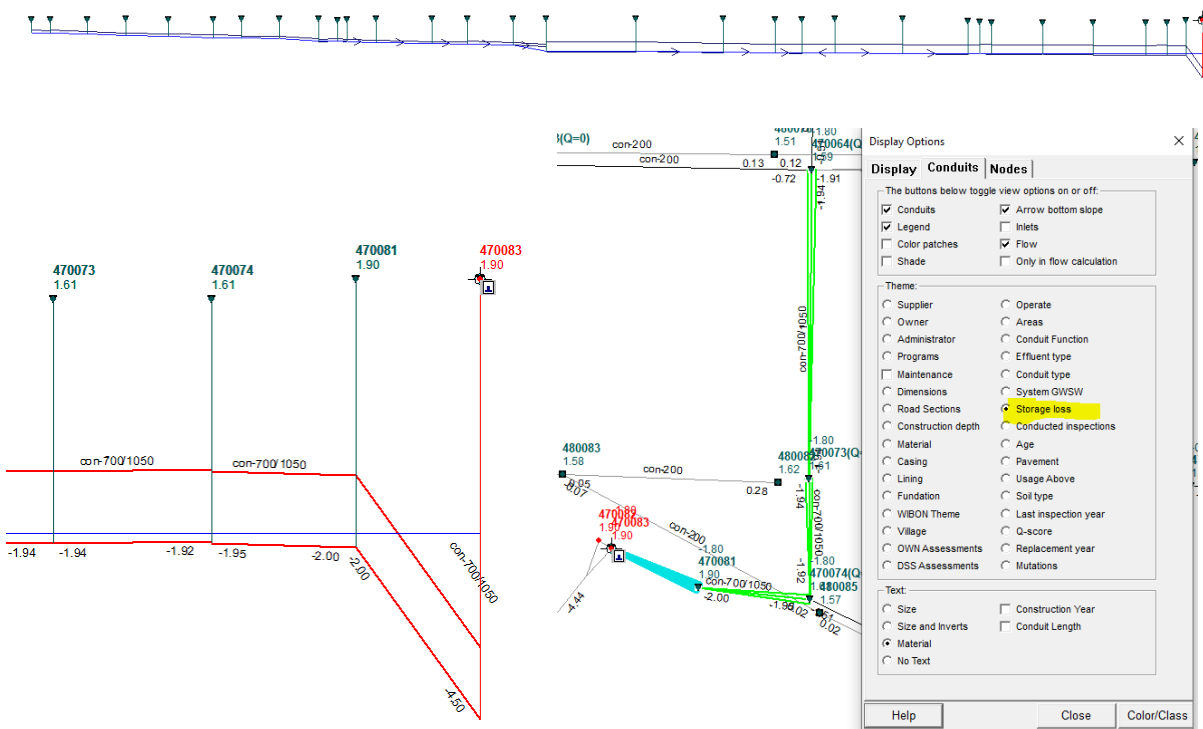

Figure 3.1.3
- [Cross Section]: to open a new window with the connecting conduits in longitudinal display. As depicted in figure 3.1.3
The location of the remaining water levels can be displayed in situation on the map with thematic colours and in a longitudinal display as depicted in figure 3.1.3